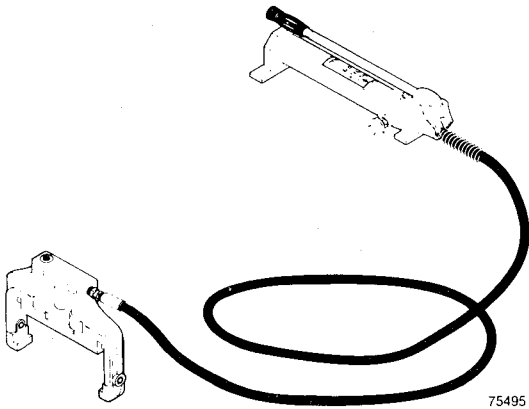

Fig. 6—4031 Crimping Unit.
4.02 4031 Hand/Hydraulic Unit is activated by pumping the handle. The pump is factory adjusted to a pressure cutoff of 4400 psi. The clamp will hold until released. See Figure 6.